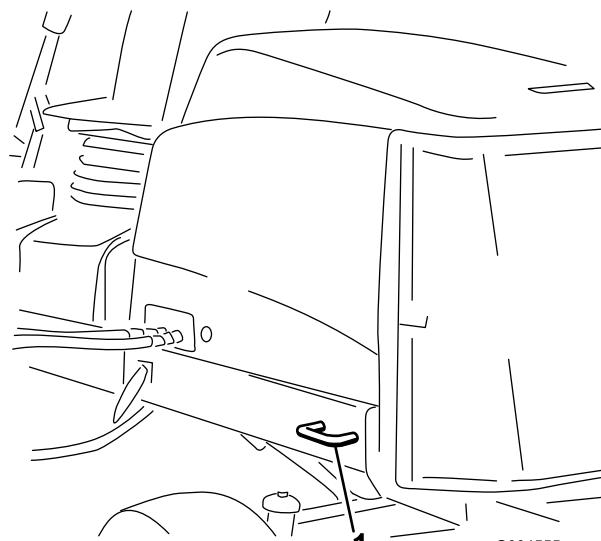

**Figure 36**
5. Use the metal tie-downs on the machine to securely fasten the machine to the trailer or truck with straps, chains, cable, or ropes (Figure 36 and Figure 37).
- Front—the hole in the rectangular pad, under the axle tube, inside each front tire (Figure 36)